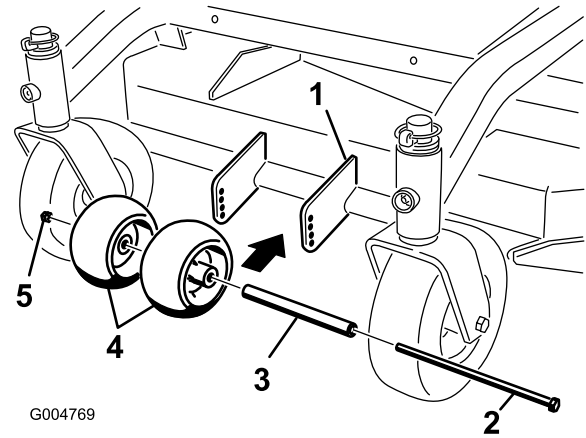

Figure 14
1. After adjusting height-of-cut, check the anti-scalp rollers so that there is a minimum of 10 mm (3/8 inch) clearance above the ground (Figure 14).
2. If adjustment is needed, remove the bolt, washers and nut (Figure 14).
3. Select a hole position so the anti-scalp rollers are a minimum of 10 mm (3/8 inch) off the ground (Figure 14).
4. Install the bolt and nut (Figure 14).